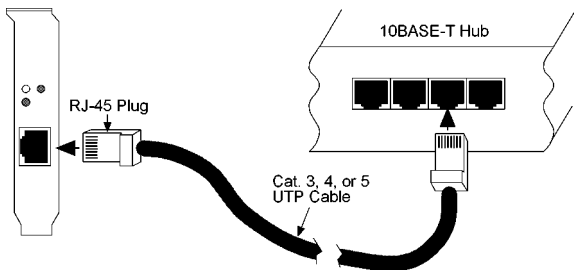

Figure 2-3 Connecting 10BASE-T Cable
2. Align the RJ-45 plug on the end of the UTP cable with the notch on the adapter's connector and insert it into the adapter connector as shown in Figure 2-3.